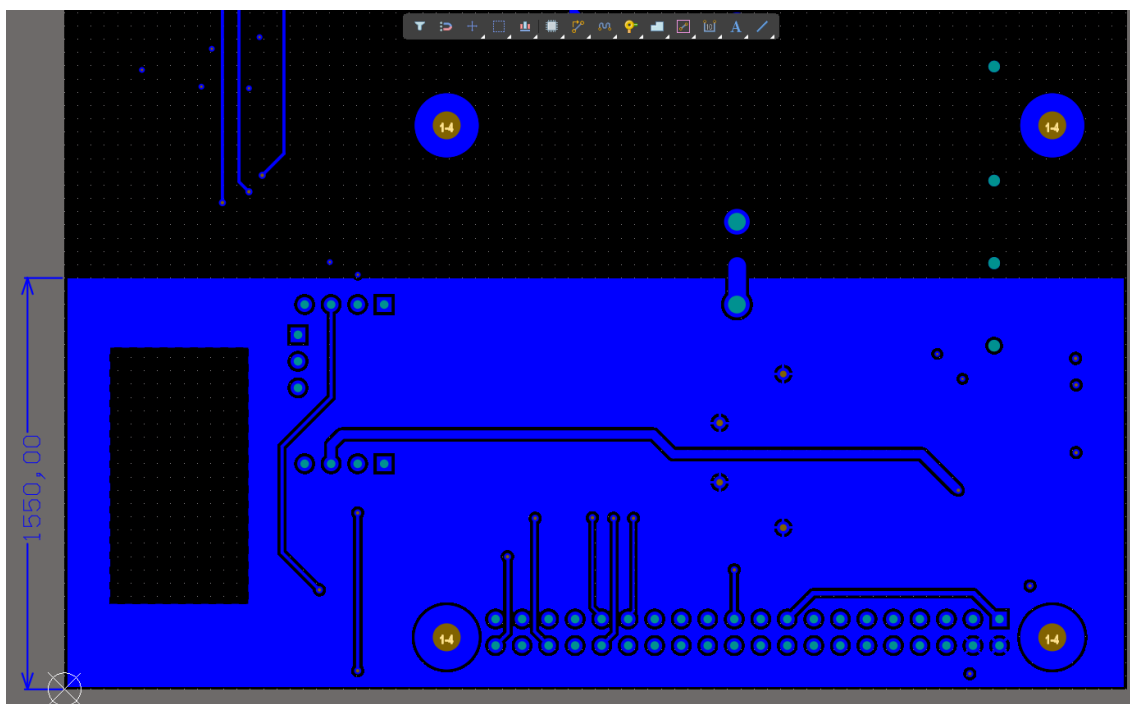

Figure 6. Polygon Pour added to the PCB, with Polygon Cutout on the left side
25. Draw a rectangular polygon similar to what is shown in Figure 6. Ensure that the polygon ends at the origin where you initially started the polygon. The high of the polygon is 1550mil.